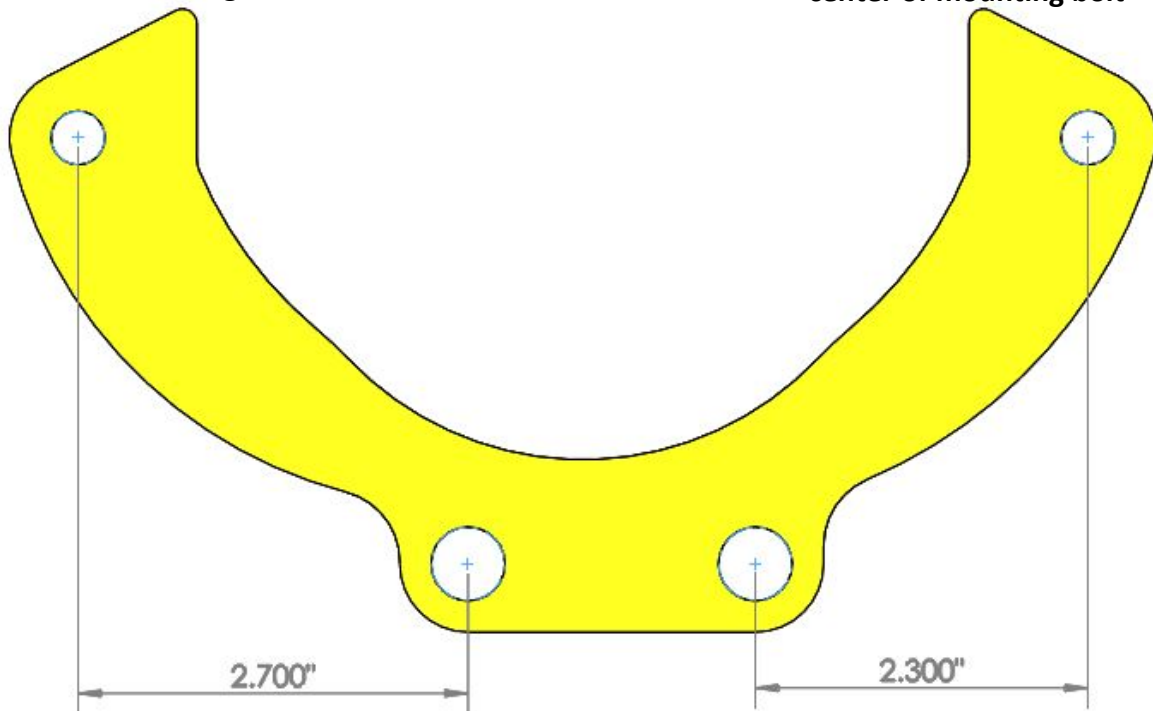

Figure 2 – Determining Top and Bottom for Intermediate Caliper Mounting Bracket
5. Next, install the Intermediate Caliper Mounting Bracket onto the Primary Caliper Mounting Bracket. The intermediate caliper bracket installs to the rear of the primary bracket using two $\frac{1}{2}$ "-20 x $1 \frac{3}{4}$ " Grade 8 Hex Head Bolts along with SAE Flatwashers and Nyloc nuts. **IMPORTANT:** The intermediate bracket has a top and a bottom. To assemble, install the bracket so the long side installs to the top. Refer to Figures 2 and 3 for additional information on how to install. Torque the bracket mounting bolts to 100 lbs/ft.